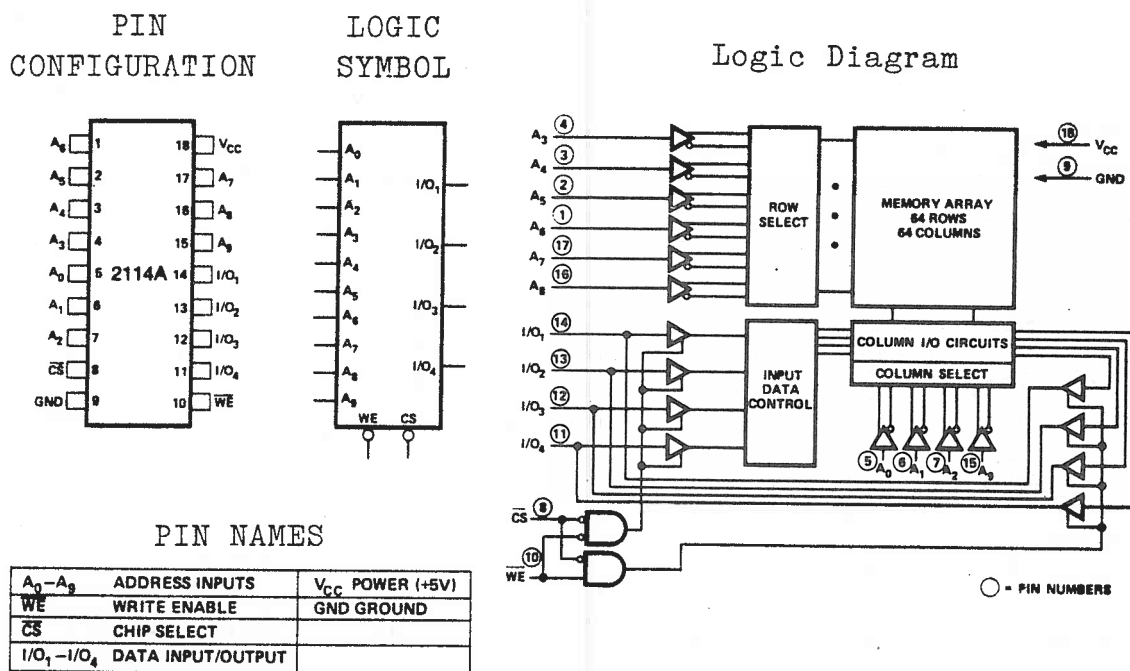

Figure 4-11. RAM Connections.
4.2.9 1024 X 4 Bit Static Random Access Memory (U17-U20, U29-U32). This device is a 4096-bit static Random Access Memory organized as 1024 words by 4 bits and requires no clocks or refreshing to operate. The data is read out nondestructively and has the same polarity as the input data. Common input/output pins are provided and a separate chip select (\overline{CS}) lead allows easy selection of an individual package. For logic and connections, see Figure 4-11.